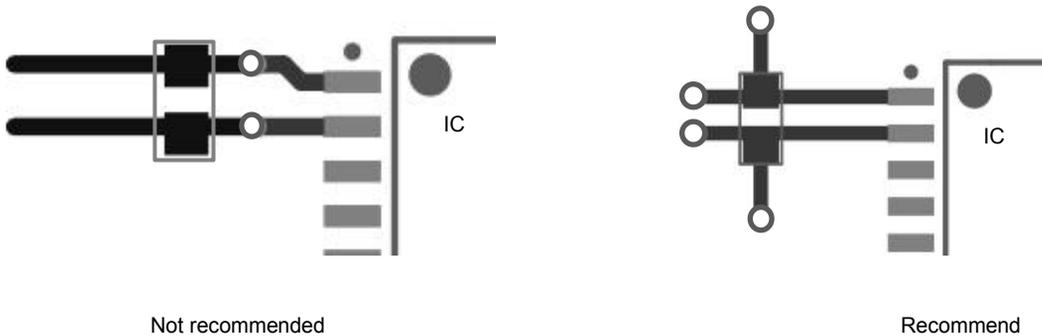

Figure10-2
3. When it is necessary to place vias in the power supply line and the ground wire, the position of the vias should be placed on the outside of the capacitor relative to the chip pins, rather than between the capacitor and the chip, as shown in the figure10-2 below to reduce the number of vias effect of parasitic inductance.